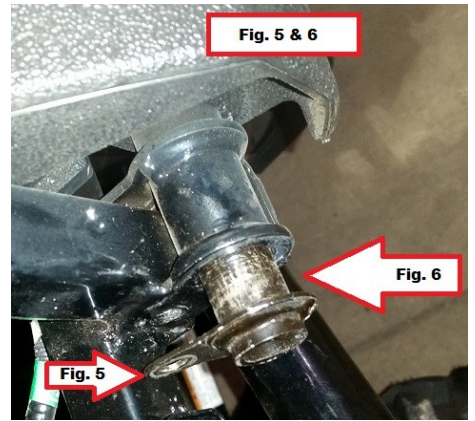

Fig. 5 & 6
- 9) Remove 10mm bolt from the pivot pin located at the bottom of the tailgate and discard this bolt. Fig.5